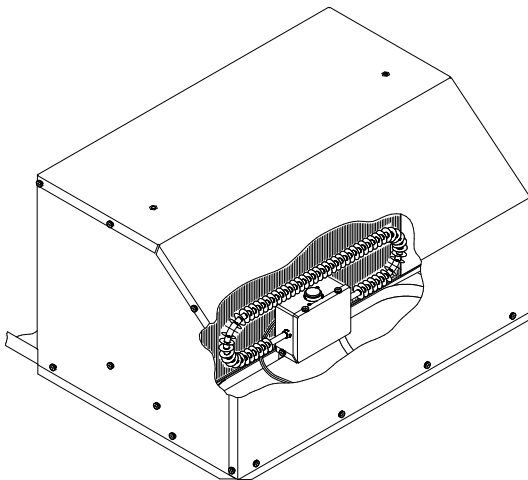
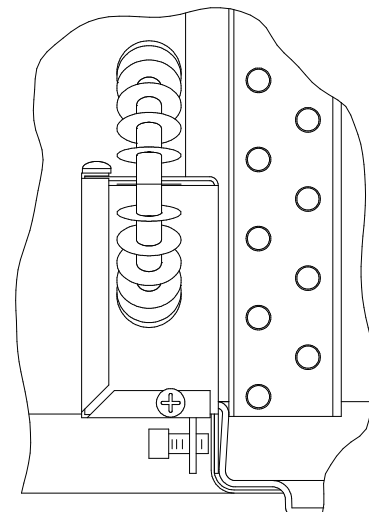

FIGURE 6
FIGURE 7
- A. Position the heater assembly in the upper unit return air opening as shown in Figure 6. The heater bracket must be installed over the metal basepan extrusion and positioned between the basepan and the plastic drain pan (See Figure 7). Tighten set screw to secure the assembly so as to prevent movement.